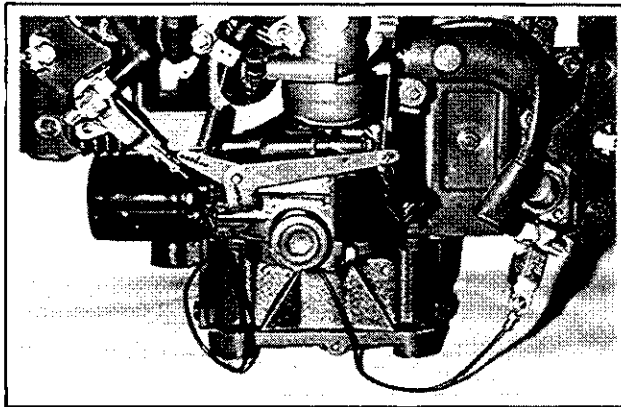

Figure 8-2. Ignition System Tester.
3. Check ignition module using test plugs (refer to the "Special Tools" section and Figure 8-2.) <ul style="list-style-type: none"> a. Remove the high-tension leads from the engine spark plugs, and connect them to the test plugs. <p style="margin-left: 20px;">NOTE: To maintain engine speeds normally obtained during cranking, do not remove the engine spark plugs.</p> <ul style="list-style-type: none"> b. Make sure the engine ignition switch (kill switch) and/or keyswitch are in the "run" position. c. Crank the engine and observe the test plugs. Visible and audible sparks should be produced. 	If visible and audible sparks ARE produced, the ignition module is OK. If visible and audible sparks ARE NOT produced: <ul style="list-style-type: none"> a. Make sure engine ignition switch and/or keyswitch are in the "run" position. b. Check wires and terminals of ignition module and other components for accidental grounding and/or damaged insulation. c. If wires and terminals are OK, the ignition module is probably faulty and should be replaced. Test module further using an ohmmeter (Test 4).